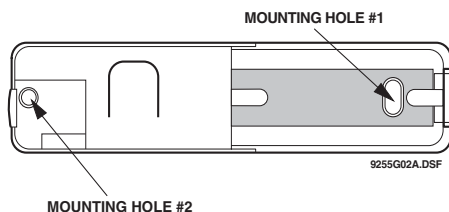

Figure 1. Mounting Hole Locations
4. Use the included screws to secure sensor base at each mounting hole location (see Figure 1). Remember to use an anchor if mounting sensor on drywall or plaster.